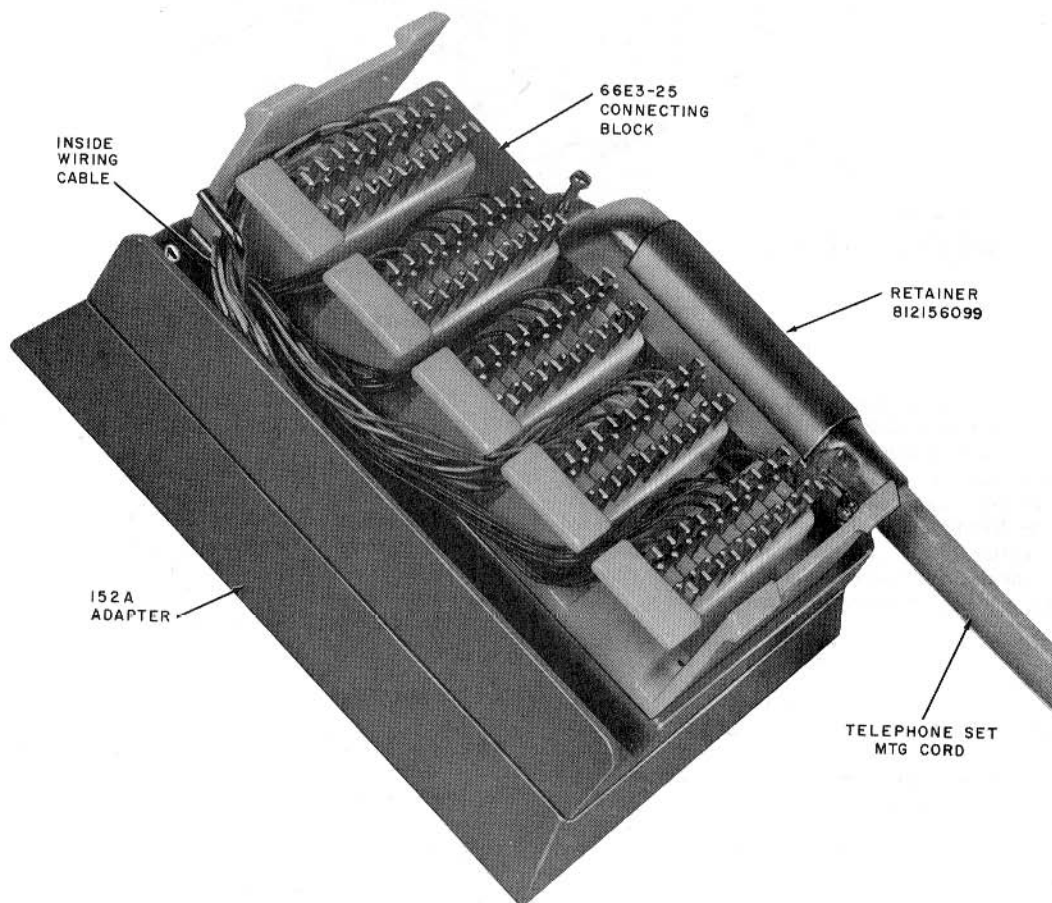
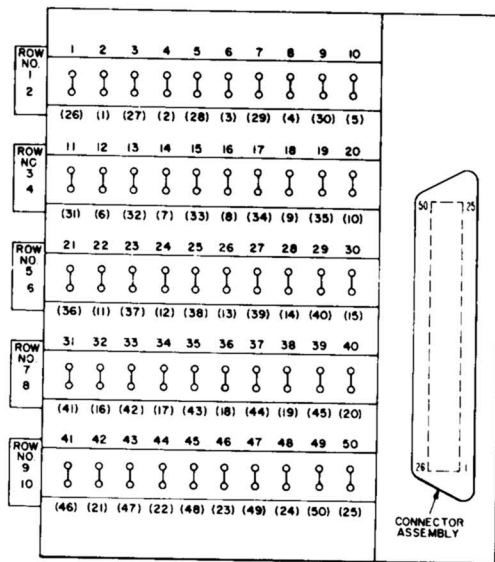

Fig. 4—66E3-25 Connecting Block Installed on 152A Mounting Adapter
Fig. 6—Numbering and Wiring Plan for 66E3-25 and 66E4-25 Connecting Block
3.02 Install the 152A adapter on electrical outlet box or overfloor duct and mount the 66E3-25 connecting block to the adapter, using the mounting hardware provided (Fig. 4). Terminate the cable conductors ♦on the connecting block pins (Fig. 6),
♦Terminate the cable conductors on the connecting block pins (Fig. 6), connect station telephone set to connector assembly, and install commercial service fitting.♦